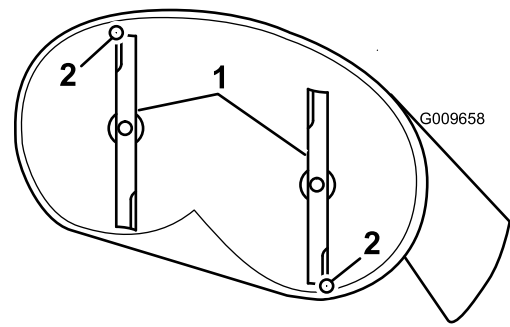
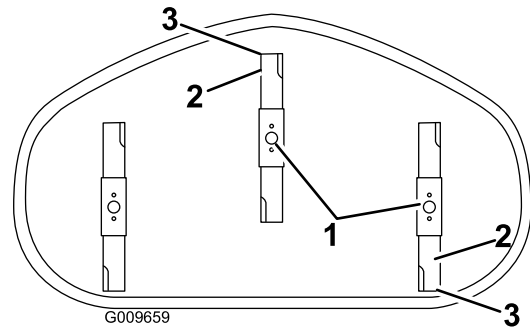

Figure 67
Figure 68
4. Carefully rotate the blades so they are facing front to rear (Figure 67 and Figure 68).
5. Measure from the tip of the front blade to the flat surface, and the tip of the rear blade to the flat surface (Figure 67 and Figure 68).
to 5/16 inch) lower than the rear blade tip (Figure 67 and Figure 68).
- A. Loosen the adjustment nut on the left adjusting rod (Figure 68).